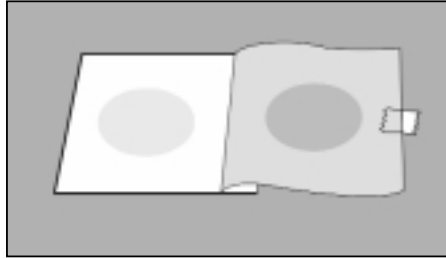

Figure 10
- To inoculate the medium, lift the top film. The circular gel area will adhere to the top film (fig. 10). Tape the Petrifilm plate to a flat surface in the open position for streaking. Streak with a sterile inoculating loop more gently and with less pressure than you would use on a standard agar plate.